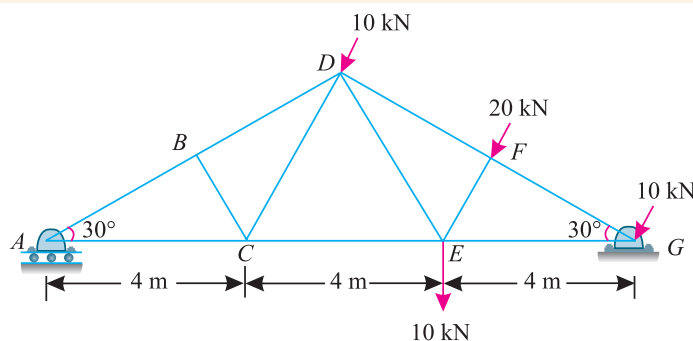

Fig. 13.50.
**Example 13.15.** A truss of 12 m span is loaded as shown in Fig 13.50.